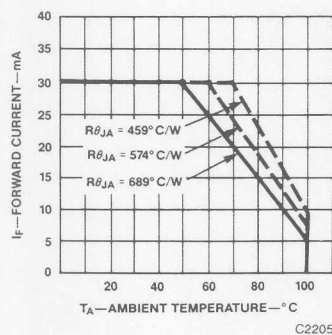

Fig. 5. Maximum Forward DC Current vs. Ambient Temperature, Derating Based on $T_J \text{ MAX} = 110^\circ\text{C}$.
3. Derate linearly as shown in Figure 5.